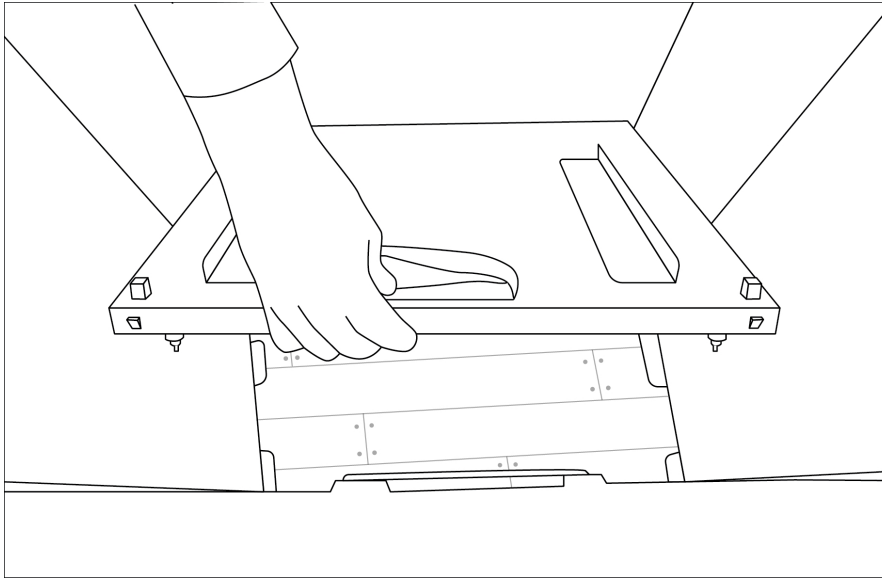

Figure 3-10. Lowering the floor of the ballot box into place
4. Grasp the handle of the floor panel and gently lower it into place. Do not allow the floor panel to drop into place as this may damage the locking mechanism. Ensure that the two silver catches on the end of the floor panel lock into place (Figure 3-10).